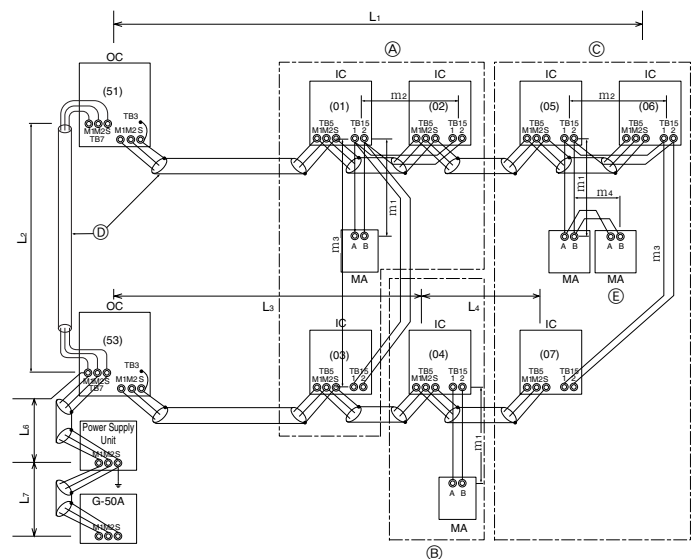

Fig. 6-3
- Controlador remoto MA (Fig. 6-3)